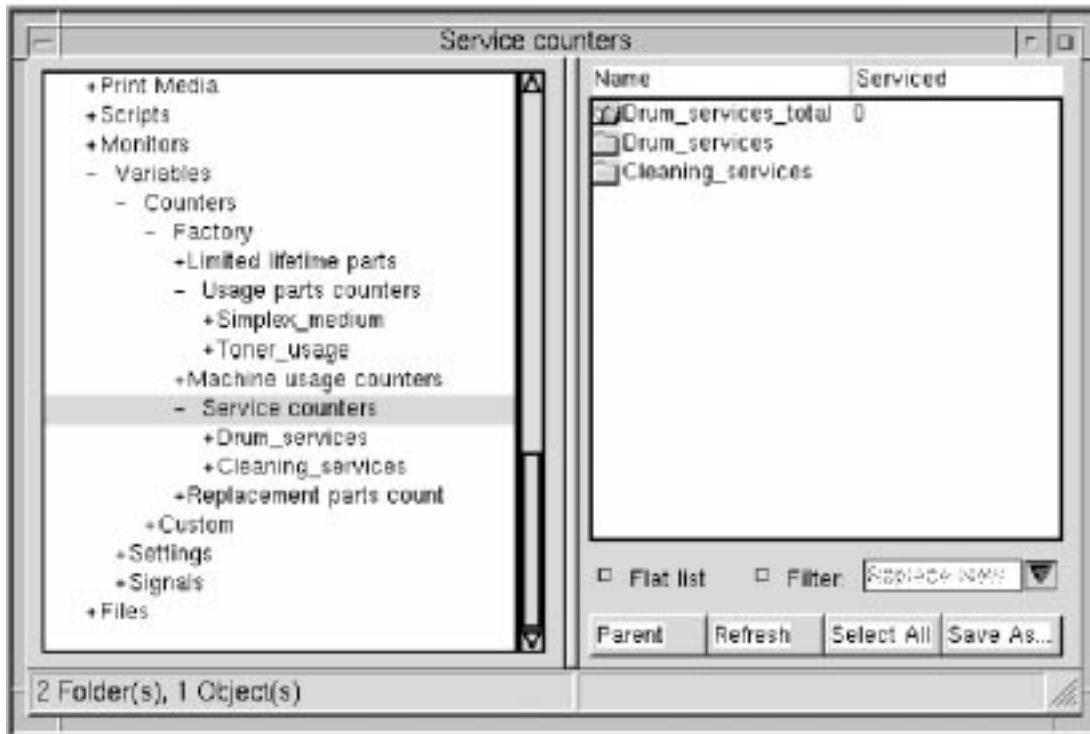

Figure 184. Service Counters Window
- 3 Click again on **Service** counters and you will see the counters in the list view or right side of the **Service counters** window, as shown in Figure 184 on page 270. The counters are described in Table 59 on page 270.